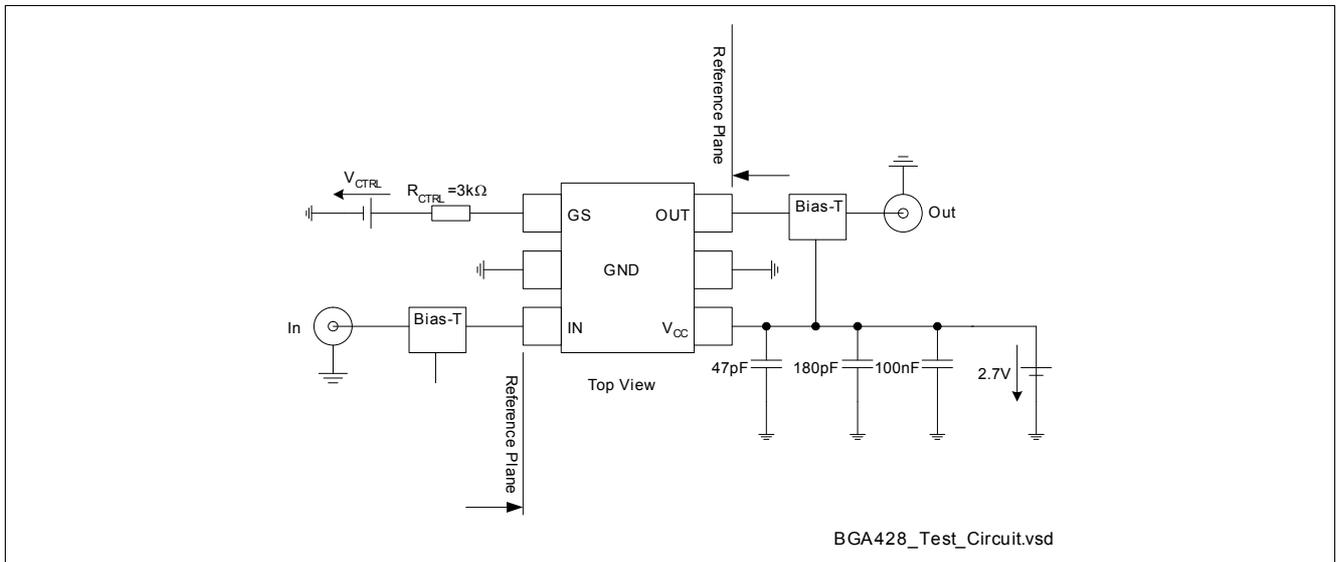

Figure 2 Test Circuit for Electrical Characteristics and S-Parameter
2.1 Electrical characteristics at $T_A = 25\text{ }^\circ\text{C}$ (measured in test circuit specified in **Figure 2**), $V_{CC} = 2.7\text{ V}$, Frequency = 1.8 GHz, unless otherwise specified